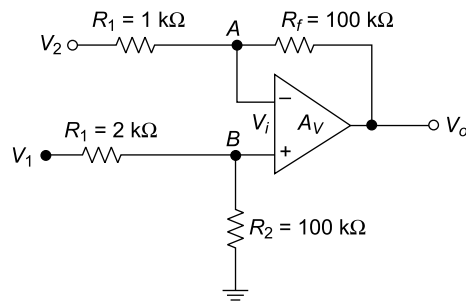

Fig. 5.89
25. Calculate the output voltage and common mode rejection ratio (CMRR) of the differential amplifier as shown in Fig. 5.89. Assume $V_1 = 3\text{ V}$ and $V_2 = 2\text{ V}$.